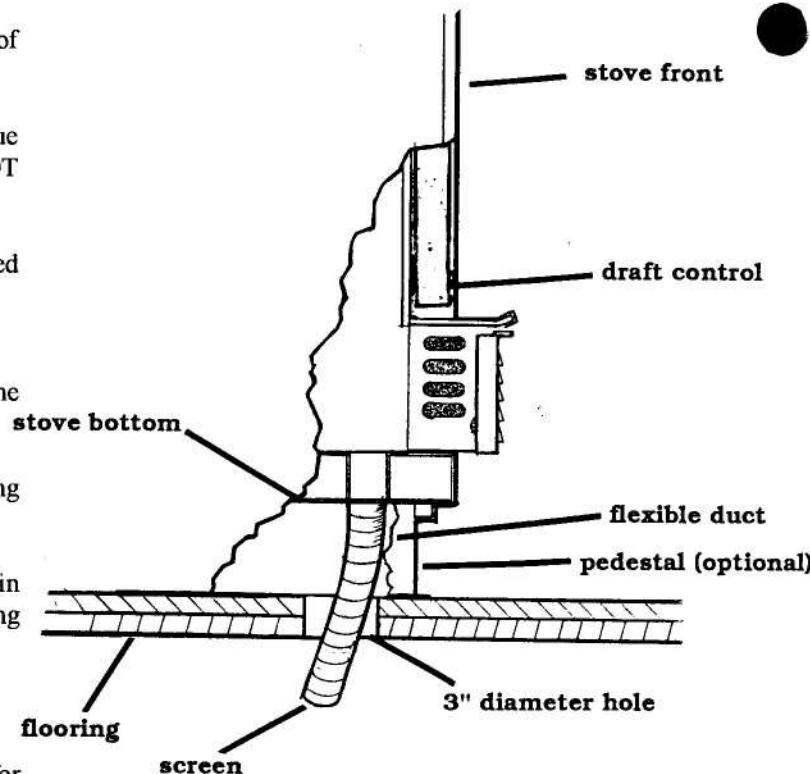

Figure 11
(C) Attach flexible duct to the air pipe opening as shown in figure 11, then attach pedestal to bottom of stove if it is being used.